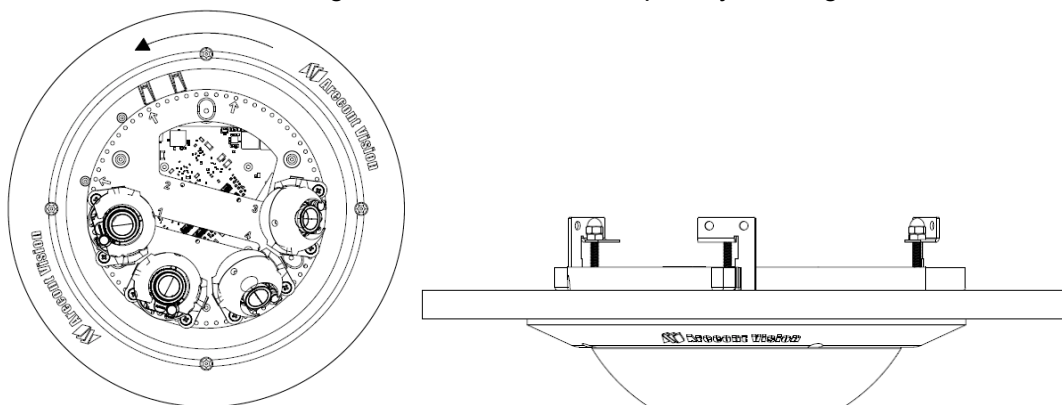

Figure 4: Attach trim ring to the flush mount adapter counter clockwise
4. Attach the trim ring to the flush mount adapter by rotating counter clockwise (Figure 4).